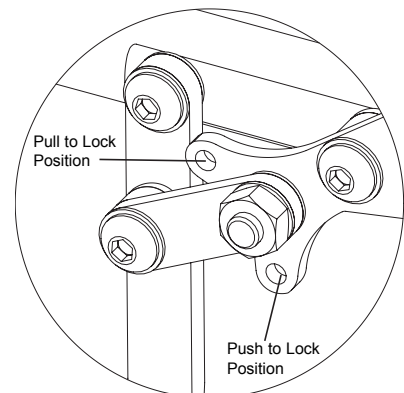

Figure 95
- Remove the socket head cap screw and reposition it to either the Pull to Lock or Push to Lock position, as desired. See Figure 95.